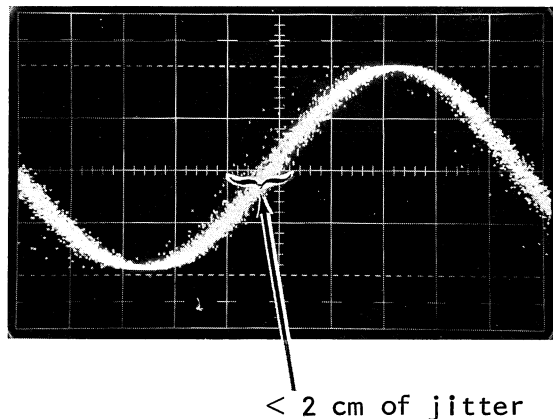

Figure 5-42
6. Adjust the TRIGGER SENSITIVITY control for a solid display (see figure 5-42).